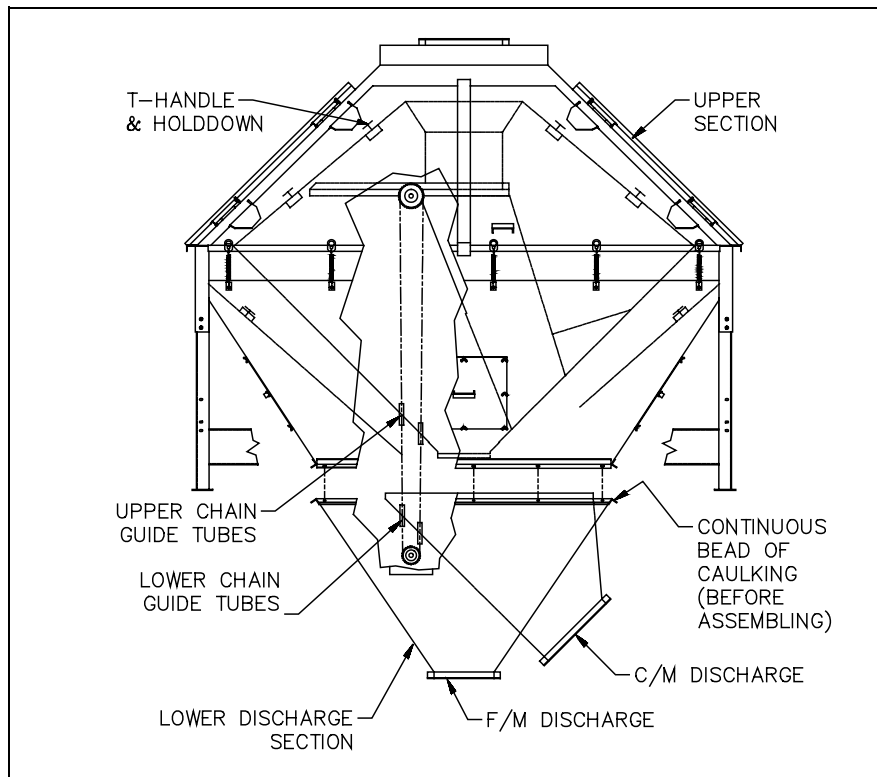

Figure 3-2, Orientation of Screener's Upper and Lower Sections
When assembling a Model PC-16000, PC-22000, or PC-30000 Screener, Intersystems recommends applying a continuous bead of caulking along the joint of the upper and lower sections as shown in **Figure 3-2**.
THE OFFSET MATERIAL OUTLET AND CABLE GUIDE TUBES IN THE LOWER SECTION MUST ALIGN WITH THE MATERIAL PASSAGE AND THE GUIDE TUBES IN THE UPPER SECTION AS SHOWN IN **FIGURE 3-2**. DAMAGE WILL RESULT IF THE SECTIONS ARE FORCED TOGETHER WHILE THEY ARE INCORRECTLY ORIENTED.
These larger size screeners employ a chain assembly and sprockets to connect the upper and intermediate gate control shafts. See **Figure 3-2** and **3-8**.
- B. Route the chain assembly around the sprockets and through the guide tubes as shown in **Figures 3-2 and 3-8**. The chain tightener must be positioned to the right of the sprocket and 2" below the centerline of the upper sprocket.